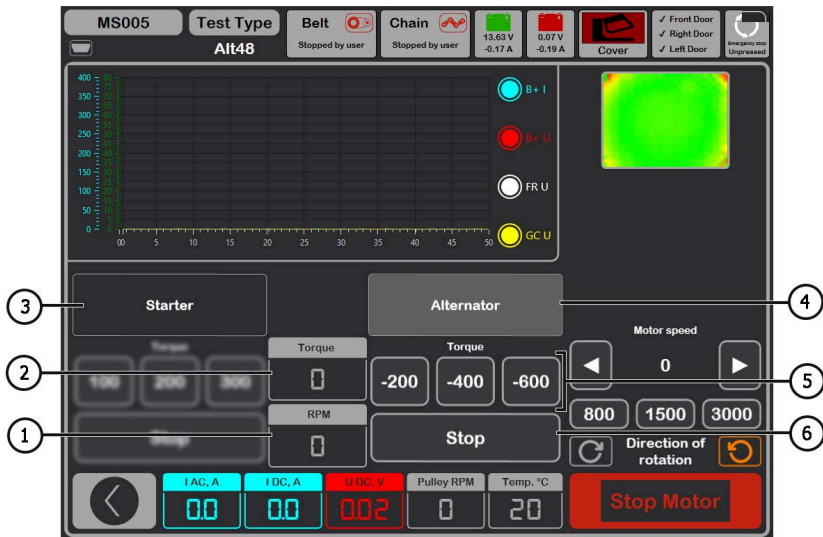

Figure 28. 48V Alternator Testing Mode Menu
In the alternator diagnostic mode for 48 V alternators (see Figure 28), the following distinctive information may be displayed on the screen:
- 6.1. Sequentially increase or decrease the resistance moment (position 5 in Figure 28). At the same time, the current value "I DC, A" should also increase or decrease proportionally.
- 6.2. Stop the testing mode by pressing the "Stop" button (position 6 in Figure 28).
- 7.2. Stop the testing mode by pressing the "Stop" button (position 6 in Figure 28).